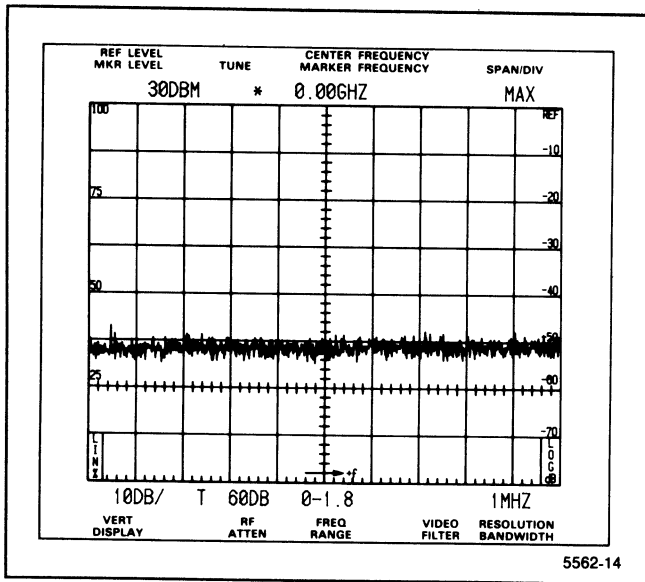

Figure 4-1. Crt display at initial power-up.
b. When POWER is switched on (power up), the microprocessor runs a memory and I/O test. If no processor system problems are found, the power-up program will complete in approximately 7 seconds, and the instrument will be ready to operate. After the power-up routine, the crt will initialize as shown in Figure 4-1.